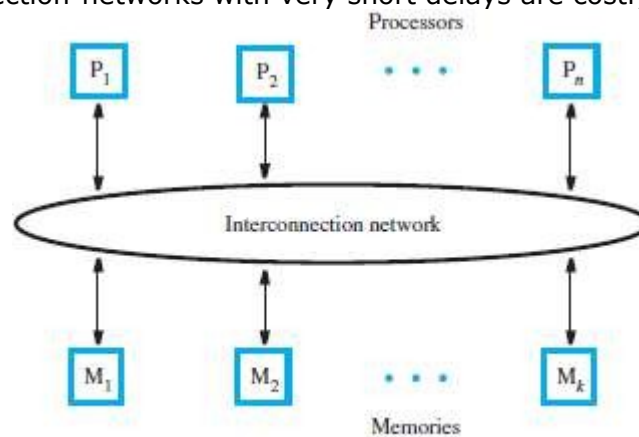

Figure 12.2 A UMA multiprocessor.
- An interconnection-network permits  $n$  processors to access  $k$  memories (Figure 12.2).